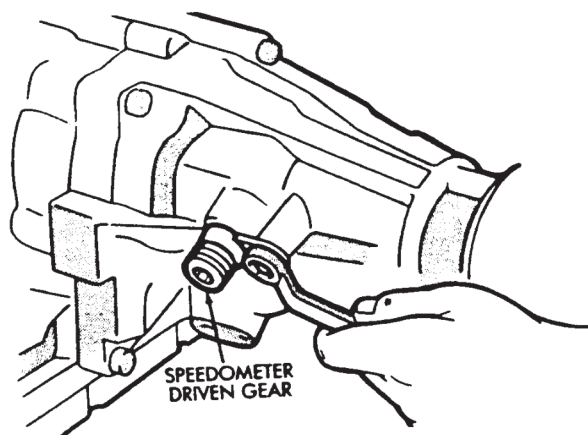

Fig. 67 Installing Speedometer Driven Gear
(91) Install speedometer driven gear (Fig. 67). Tighten gear attaching bolt to 19 N•m (175 in-lbs) torque.